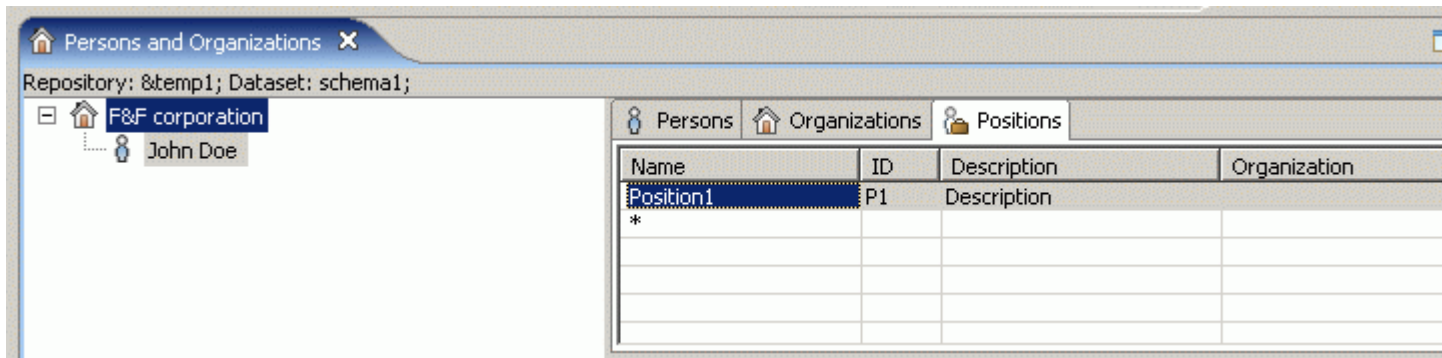

Figure 1. Position 'Position1' is dragged onto 'F&F corporation' node in the tree
- Drag and drop the element onto the destination node in the organizations tree. The destination node is highlighted on the tree (see Figure 1).